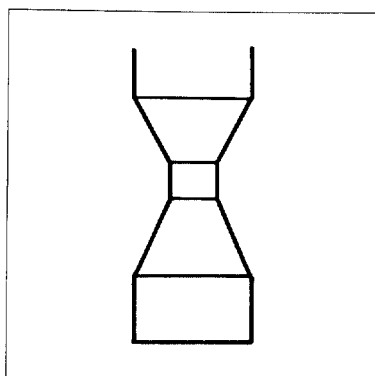

Fig.9-31
- ② Push rod with OLP (Over Load Protector) (Fig.9-31)